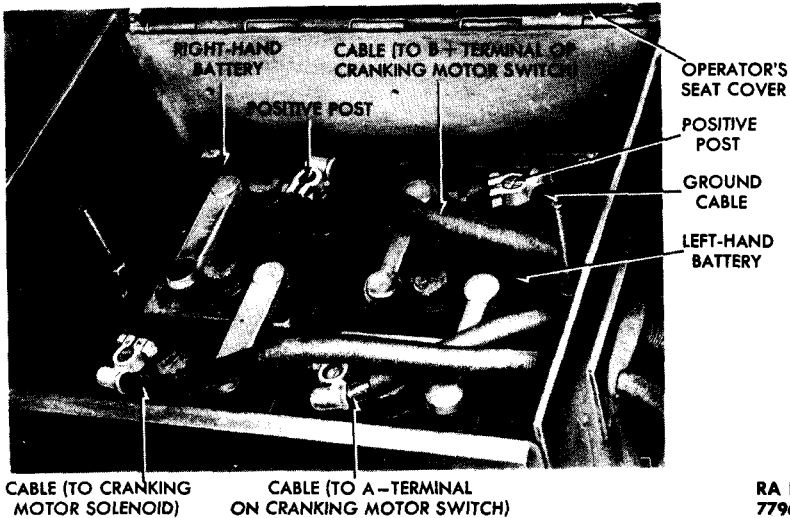

Figure 97 – Batteries Installed
(4) **ADD WATER TO BATTERY** (fig. 97). Remove vent caps from battery and check level of electrolyte in cells. If level is less than $\frac{3}{8}$ inch above separators, add pure distilled water.
c. **Removal** (fig. 97). Remove cushion, and raise operator's seat cover. Loosen nuts on battery terminal clamps, and pry clamps from terminal posts. Remove the two battery hold-down frame stud nuts and lock washers. Lift off battery hold-down frame, and lift batteries from vehicle.
d. **Installation** (fig. 97). Position batteries in battery box so the positive posts are at rear, and place battery hold-down frame on batteries. Secure with the two stud nuts and lock washers, drawing nuts up snug but not tight. In installing left-hand battery, connect cable from "A" terminal of cranking motor switch to negative post; connect ground cable to positive post. In installing right-hand battery, connect cable from cranking motor solenoid switch to negative post; connect cable from "B+" terminal of cranking motor switch to positive post. Grease exposed metal parts of cable terminal and post after connection is made. Lower cover of operator's seat, and install cushion. Check installation of batteries, and start engine with cranking motor to test starting of engine and charging rate as shown by ammeter.